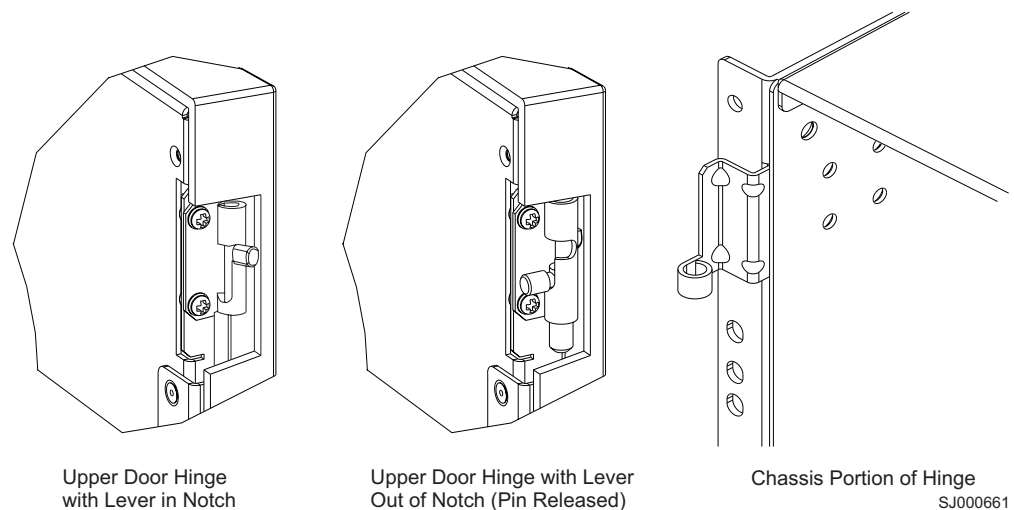

Figure 33. Upper door hinge
- a. Push the spring-loaded pin on the upper hinge up and into the notch in the hinge. See Figure 33.
Perform the following steps to replace a new door in the chassis (see Figure 33 on page 49 for illustrations of the upper hinge):